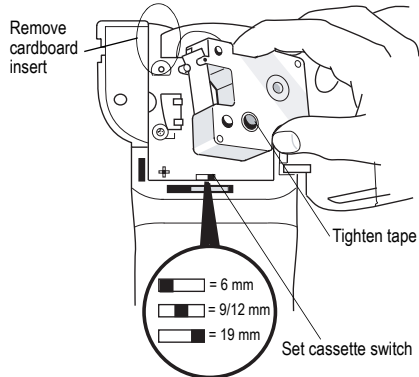

Figure 4
2. Set the cassette switch for the size of the tape cassette that you are inserting. See Figure 4.
⚠ The first time you use the printer, remove the protective cardboard insert from between the print head and pinch roller. See Figure 4.